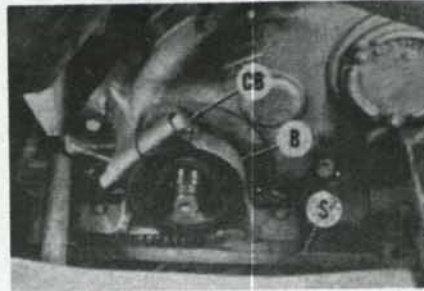

Fig. AC56B — Front support (S) and bracket (B) can be removed together.
radiator. Remove retaining pin from steering shaft universal joint and slide steering shaft rearward. Support tractor and slide front support forward as described in paragraph 141A. Remove fan belt and crankshaft pulley. Unbolt engine front support (S—Fig. AC56B) from side channels, loosen clamp bolt (CB) and remove bracket (B).